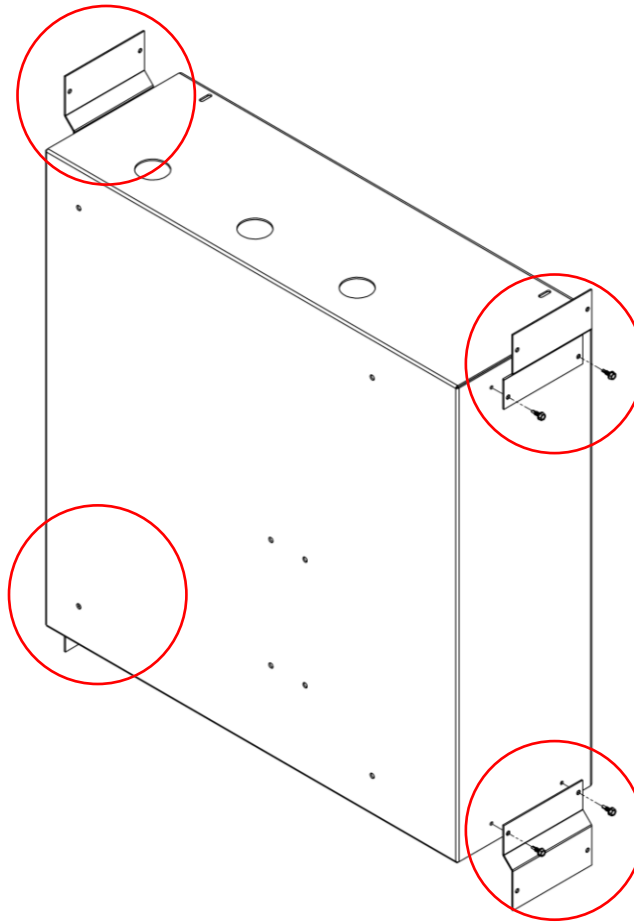

Figure 3: S-Series Enclosure Flush Mount Flange Installation
3. Place the S-Series Enclosure next to the stud accounting for finished wall clearance See [Figure 3].